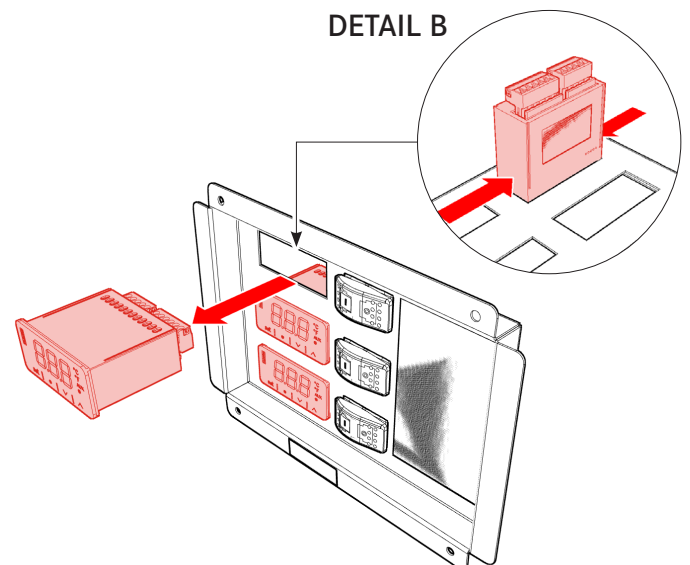

Fig. 3
4. Remove controllers by pressing in on tabs to either side of each controller. Slide mounting clips back and off of controller. Pull controller through frame to remove (Fig. 3).